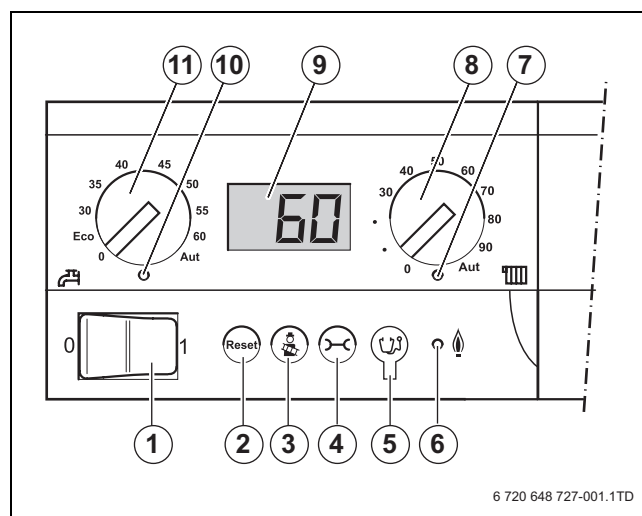

Fig. 4 BC10 basic controller
The mains switch (→ fig. 4, item 1) is used to switch the boiler on and off.
If a fault has occurred you may have to restart the boiler by pressing the "Reset" button (→ fig. 4, item 2).
The "Chimney sweep" button (→ fig. 4, item 3) is used to put the boiler into manual operation mode, e.g. if the heating system control (e.g. room controller) is defective.
- ▶ Limit the maximum CH (boiler) flow temperature using the “CH (boiler) flow temperature” dial (→ fig. 4, item 8) to the permissible flow temperature of the floor heating circuit (usually maximum 40 °C).
The "Service" button (→ fig. 4, item 4) is used to display the current CH (boiler) flow temperature, the current working pressure etc. Also see section 7.1.1, page 11.
A Worcester service engineer can connect a Service Tool here (→ fig. 4, item 5) for diagnostic purposes when servicing.
The “Burner” (On/Off) LED (→ fig. 4, item 6) lights up when the burner of the boiler is switched on and it is extinguished when the burner is switched off.
The “Heat demand”LED (→ fig. 4, item 7) lights up when the control system has made a heat demand and it is extinguished when this heat demand is no longer required.
The maximum CH (boiler) flow temperature (→ fig. 4, item 8) is used to set the upper CH (boiler) flow temperature limit. The unit is °C.
The heating system status and values can be read out from the display (→ fig. 4, item 9). If a fault occurs the display will immediately show the accompanying fault code. The fault code display will flash if a locking fault is detected.
The “DHW mode” LED (→ fig. 4, item 10) lights up when a DHW request has occurred and it is extinguished when this DHW request is no longer required.
The DHW temperature dial (→ fig. 4, item 11) is used to select the required temperature of the hot water in the hot water cylinder. The unit is °C. This is only active with certain Bosch controls.